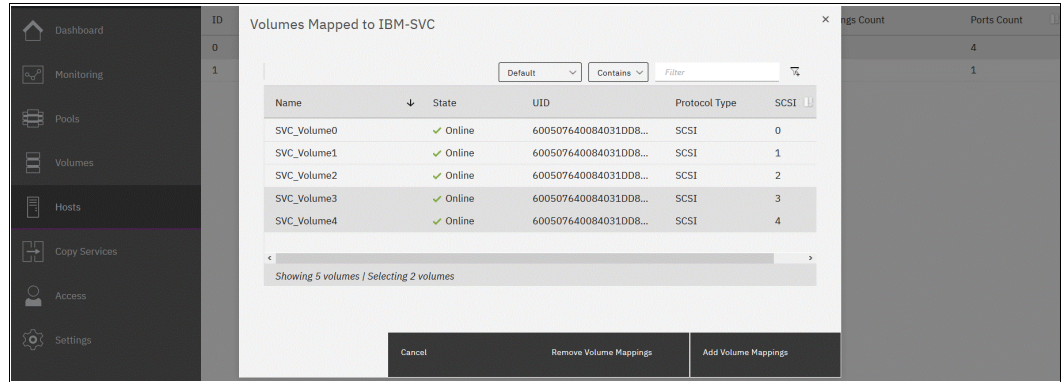

Figure 7-57 Existing shared mappings
2. A window that shows all shared mappings that exist for the selected cluster opens, as shown in Figure 7-57.